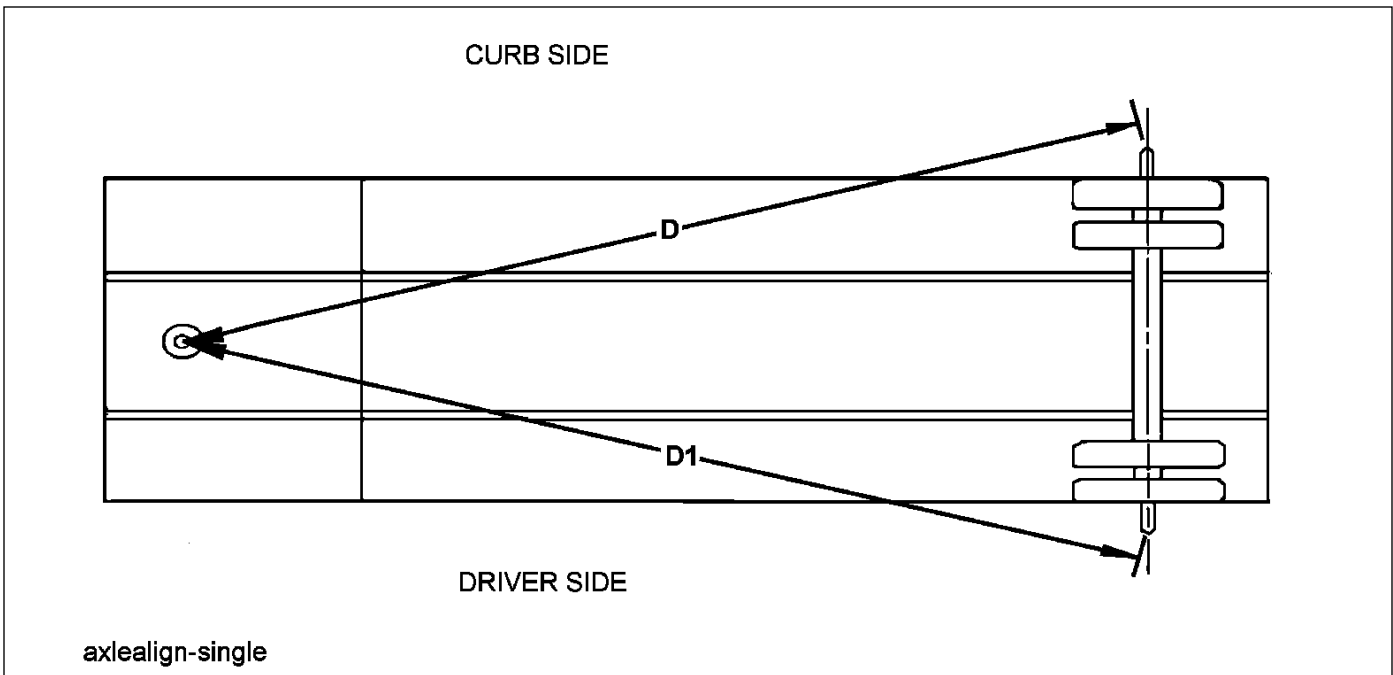

Figure 4-7: Checking Axle Alignment
3. Move the axle gauge and place against the back side of the axle. If either of the points of double point end fails to touch the axle surface, a bent spindle is evident. A point gap of .015" or more is considered excessive tire “toe” and the axle must be replaced (See Figure 4-7.)
4. Measure (D) from the plumb bob to the center point on one end of the axle. Record this measurement **(See Figure 4-7.)**
5. Measure (D1) to the other end of the axle in the same manner as in **step 4**. Record this measurement **(See Figure 4-7.)**